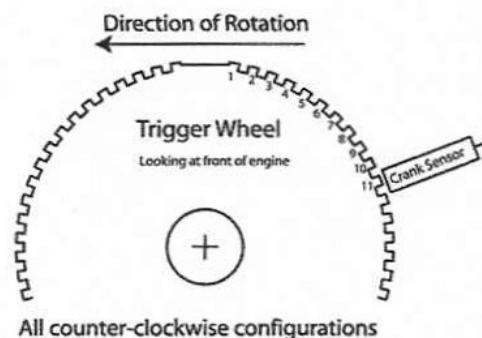

Figure 6: Crank Shaft Trigger Wheel Positioning
- i. Loosen the CSTW and rotate it until the alignment pin (remember the dowel/pop rivet assembly which is still in the pick-up holder) lines up with the hole in the CSTW. The alignment pin can be used to lock the CSTW position. **This should place the trailing edge of the 11th tooth past the two missing teeth** directly under the center of where the magnetic pick-up will go. Reference Figure 6 for sensor alignment and positioning. If this is not correct, return to step "d" or "e" (depending on your engine make) and repeat.